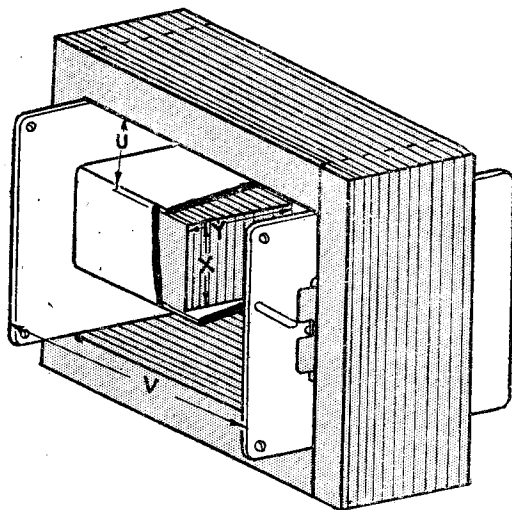

Fig. 1. Showing the dimensions required for calculating a design
By core area we mean "X" \times "Y," Fig. 1.
(8) We now have to find the size and shape of the core stampings required. "Y" Fig. 1 should preferably be about 1.25 to 1.5 times "X", and if we take the latter "X" could be 1.25 in., and "Y" 1.8 in., which will give us approximately 2.3 sq. in. core cross section area.
To find the window space required, "U," "V" Fig. 1, we must first find the space taken by each winding. Twenty s.w.g. winds 865 turns per sq. in., so the primary winding will require $\frac{882}{865}$ sq. in., say 1.1. The secondary will